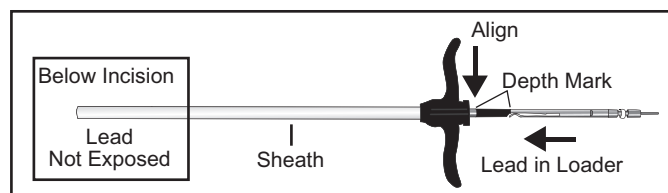

Figure 22: Insert the StimRouter Lead in Loader into the Sheath
- With the sheath still in place, insert the StimRouter Lead in Loader (anchor end first) into the sheath until the distal end of the depth mark on the loader aligns with the proximal end of the sheath. In this position, the lead is not yet exposed (see Figure 22).